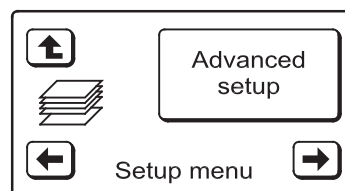

FIG. 25
2. Press the **LEFT** (←) button twice to display the screen shown in Figure 25.